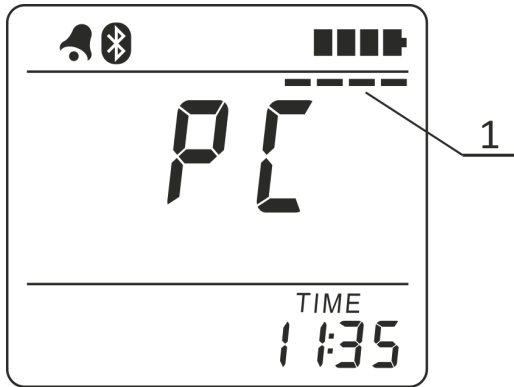

Figure 27 – LCD of the radiometer
In case of a successful connection with the PC and data communications start, the LCD of the radiometer displays a stripe (1) (Figure 27) “moving” across the instantaneous value indicator.